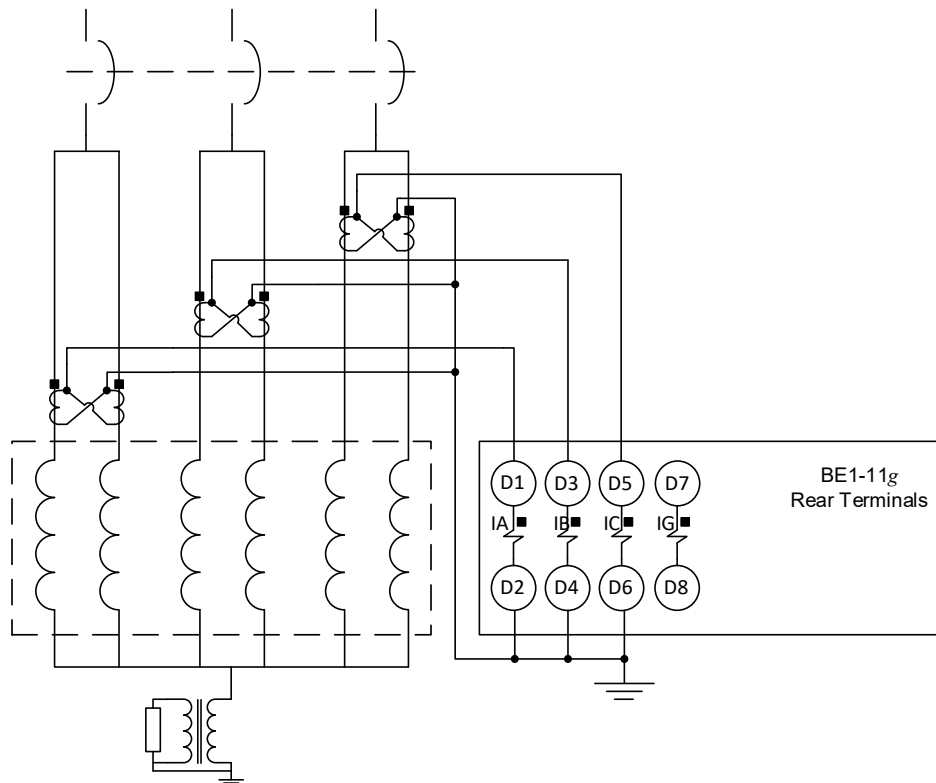

Figure 1 - BE1-11g Relay CT Configuration and Wiring Connections
Usually, split-phase generator windings are found on low-speed, hydraulic-type generators. As the name implies, in a split-phase configuration each phase of generator windings is split into parallel sets of windings. Protection engineers can use this design characteristic to detect turn-to-turn shorts. When a turn-to-turn short occurs, current circulates in the generator winding because of the voltage imbalance that occurs as a result of the shorted turn. This fault can be detected by several different CT configurations. Regardless of the chosen CT configuration, an inverse time element (51) combined with an instantaneous element (50) for each set of windings provides adequate protection for turn-to-turn shorts. [2] For this application note example, the CT configuration and wiring to the BE1-11g relay is depicted in Figure 1.